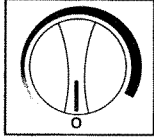

Fig.14
- To turn off the freezer, (no cooling) rotate the control knob to the "0" (off) position. See fig.14.